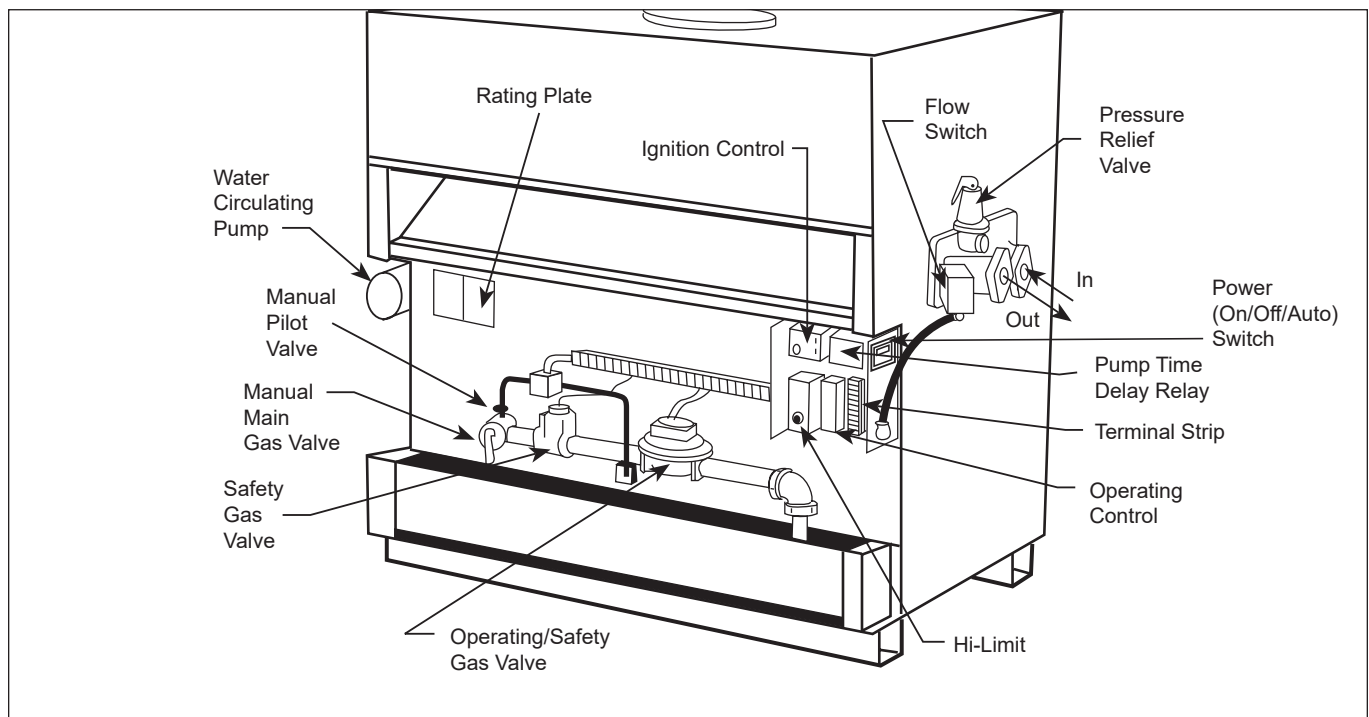

Figure 11. Controls Location.
(see Figures 11 and 12)
7. An adjustable pump time delay relay is mounted in the control panel (see Figure 11). This relay keeps the pump running after the burners shut off. The delay should be set to 10 minutes.